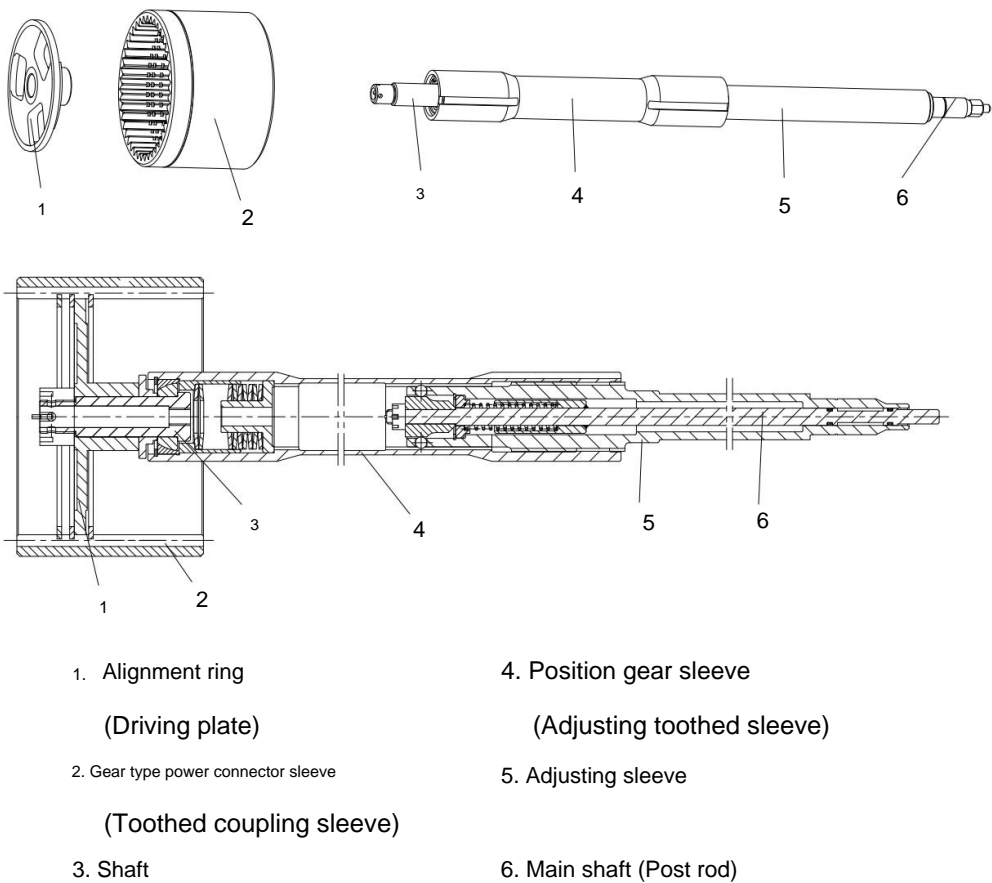

Figure 11 Adjuster assembly
Figure 11. Connection steps of the gear-type power coupling sleeve (2) of the ultimate drive gear. Projection and power transmission gear (Not shown in photo): Unscrew the final drive gear cover and insert the special tool into the screw hole. Press the main shaft (6) until the hexagonal hole of A special tool is inserted into the outer hex of the alignment sleeve (5) and pressed down until it stops. The alignment sleeve now disengages from the alignment gear sleeve (4). Rotate the special tool clockwise, the alignment ring (1) and gear coupling sleeve (2) will move inside the vehicle. Under the action of the shaft (3), if the gear coupling sleeve cannot move, rotate the special tool counterclockwise approximately 2.5 revolutions. At this time, the mark line Address outside the casing The gear coupling (2) is covered by a mounting seat on the outside of the speed converter. The special tool is removed and the main shaft returns to its position under the action of the springs. Inside the housing, adjust and the alignment sleeve and the alignment gear sleeve are in a locked state. Therefore, the power connection between the toothed coupling sleeve of the gear unit final drives and power transmission gears of the speed changer, then the power is connected successfully. The release procedure is the same as the locking, but differs in the direction of rotation of the special tool.